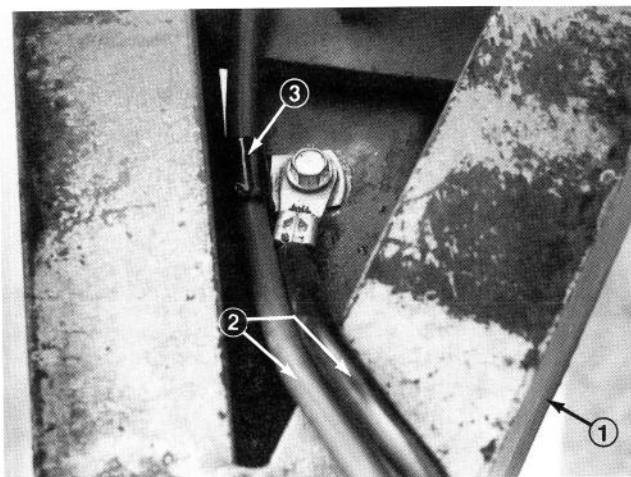

Figure 8
15. Mount connector end of frame wire assembly to front of trailer tongue by drilling a .296 (19/64) dia. hole in tongue, sliding "R" clamp onto long wire and securing both wires to trailer tongue with 5/16 — 18 x 7/8" thread forming screw and external tooth lockwasher (Fig. 8).